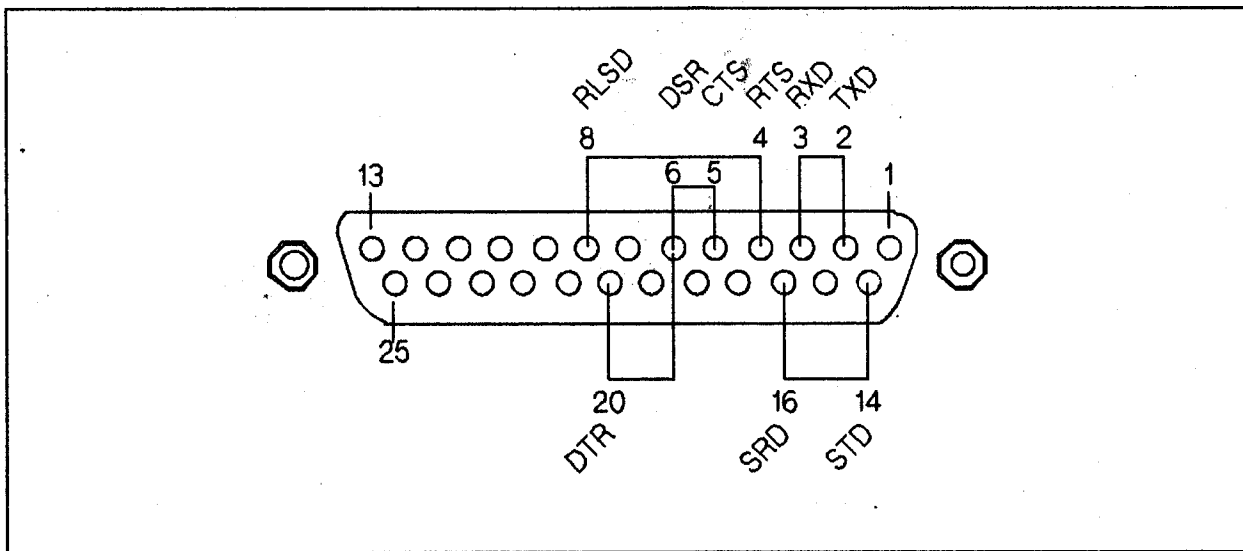

Figure 8-5. Loopback Test
- a. Turn the plotter OFF (O).
- c. Connect the I/O loopback connector [P/N 07440-60302] to the RS-232-C interface at the rear of the plotter. If no loopback connector is available, specific contacts on the RS-232-C connector may be shorted as shown in Figure 8-5.